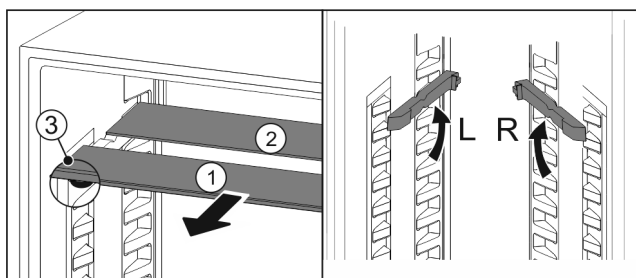

Fig. 70
- ▶ Pull the glass panels out Fig. 70 (1) from the front, one at a time.
- ▷ The glass panel Fig. 70 (1) and trim strip are at the front.
- ▷ The stops Fig. 70 (3) point down.